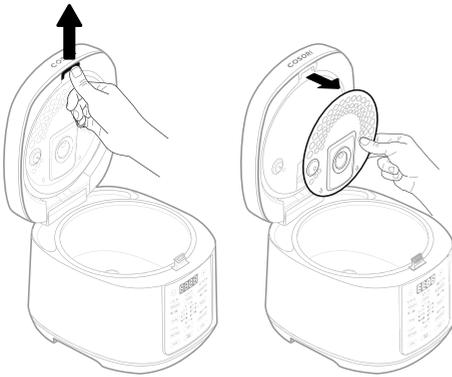

Figure 1.1
3. Remove the inner lid (see page 17). **[Figure 1.1]**